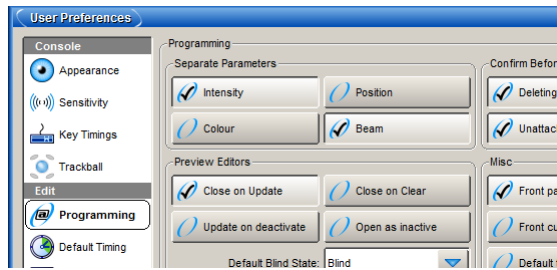

Figure 15.13. The Programming pane of the User Preferences window
2. Toggle separating parameters on and off by pressing the parameter type buttons; see *Figure 15.13, “The Programming pane of the User Preferences window”*.